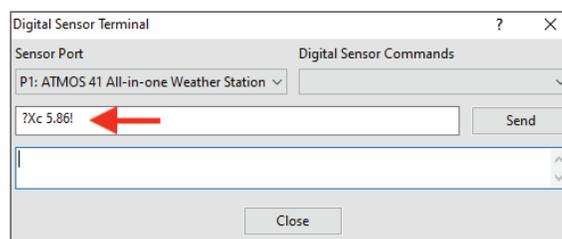

Figure 22 ?Xc Y.YY! command entered
9. Enter the **?Xc Y.YY!** command in the prompt field where **Y.YY** is the new pyranometer CAL Factor (Figure 22).